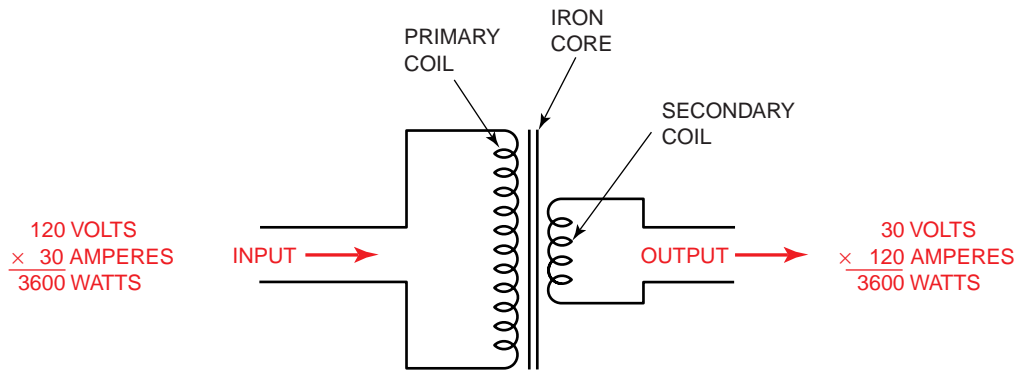

FIGURE 8-14 Diagram of a step-down transformer.
Transformers A welding transformer uses the alternating current (AC) supplied to the shop at a high voltage to produce the low-voltage welding power. As electrons flow through a wire, they produce a magnetic field around the wire. If the wire is wound into a coil, then the weak magnetic field of each wire is concentrated to produce a much stronger central magnetic force. Because the current being used is alternating (reversing) each 1/120 of a second, the magnetic field is constantly being built and allowed to collapse. Placing a second or *secondary* winding of wire in the magnetic field produced by the first or *primary* winding will induce a current in the secondary winding. The placing of an iron core in the center of these coils will increase the concentration of the magnetic field, **Figure 8-14**.